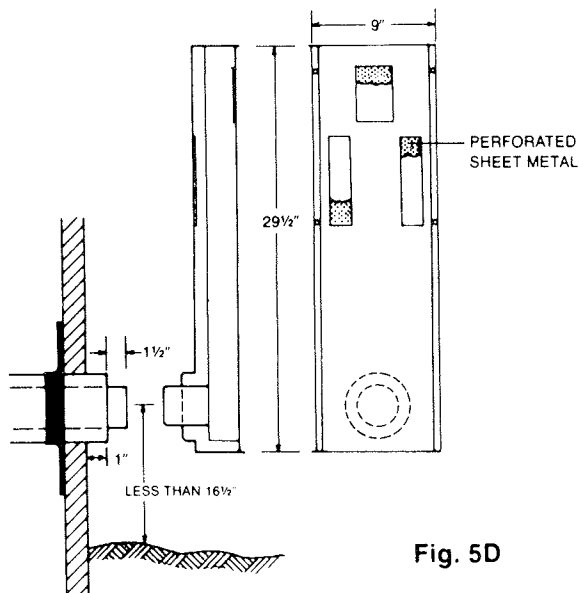
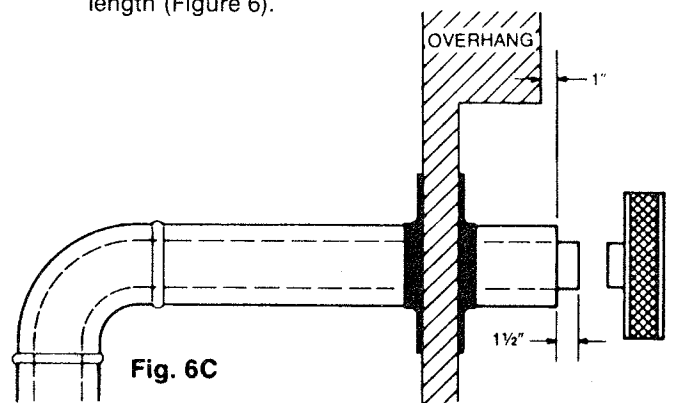

Fig. 5D
Fig. 6C
- H. On the outside of the house, mark the 5" horizontal piece for the correct protrusion (Figures 6C and 6D). The minimum protrusion is 1" (for the outside wall flange). Cut the 5" pipe on the mark. **Cut the 3" horizontal piece 1½" longer than the 5" piece.** If optional vent terminal is being used, see Figure 5D.